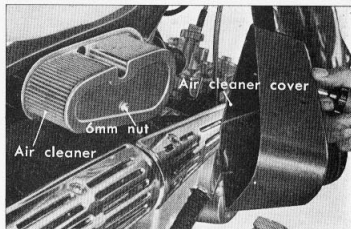

Figure 6-21. Removing air cleaner cover (S50, S65)
- For models S50 and S65, remove the air cleaner cover on the center right side, loosen the screw and remove the air cleaner. (Fig. 6-21)